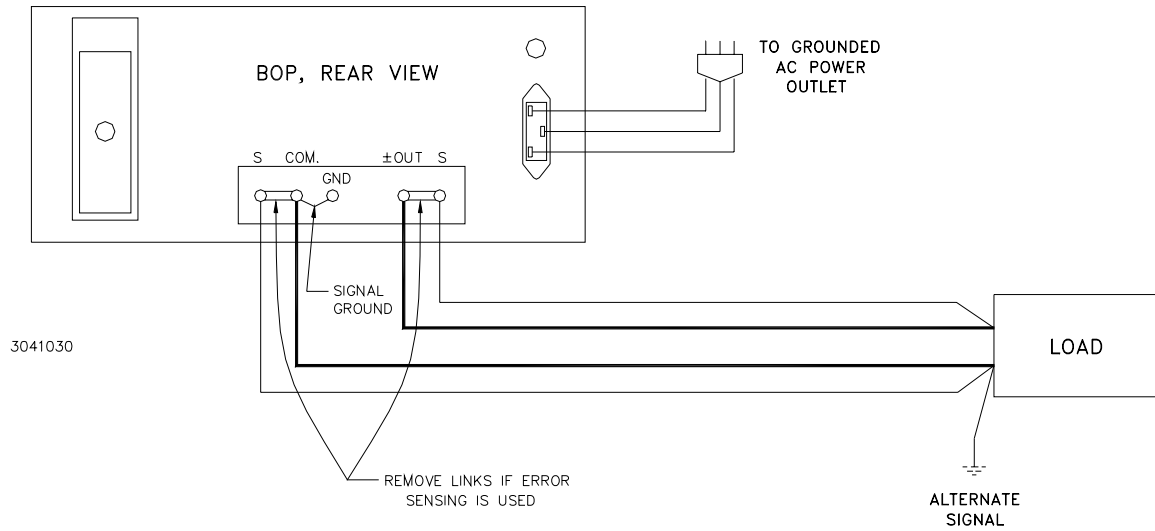

FIGURE 3-6. LOAD CONNECTION WITH ERROR SENSING AND GROUNDING CONNECTIONS BETWEEN THE BOP AND THE LOAD
- C) **LOAD CONNECTION (II).** The recommended load connection for all applications requiring minimum load effect across a remote load is shown in FIG. 3-6. A twisted, shielded pair of wires (AWG No. 20 minimum) is connected from the BOP sensing terminals to the load. This “remote error sensing” technique will compensate for load wire voltage drops up to 0.5 volts per wire.